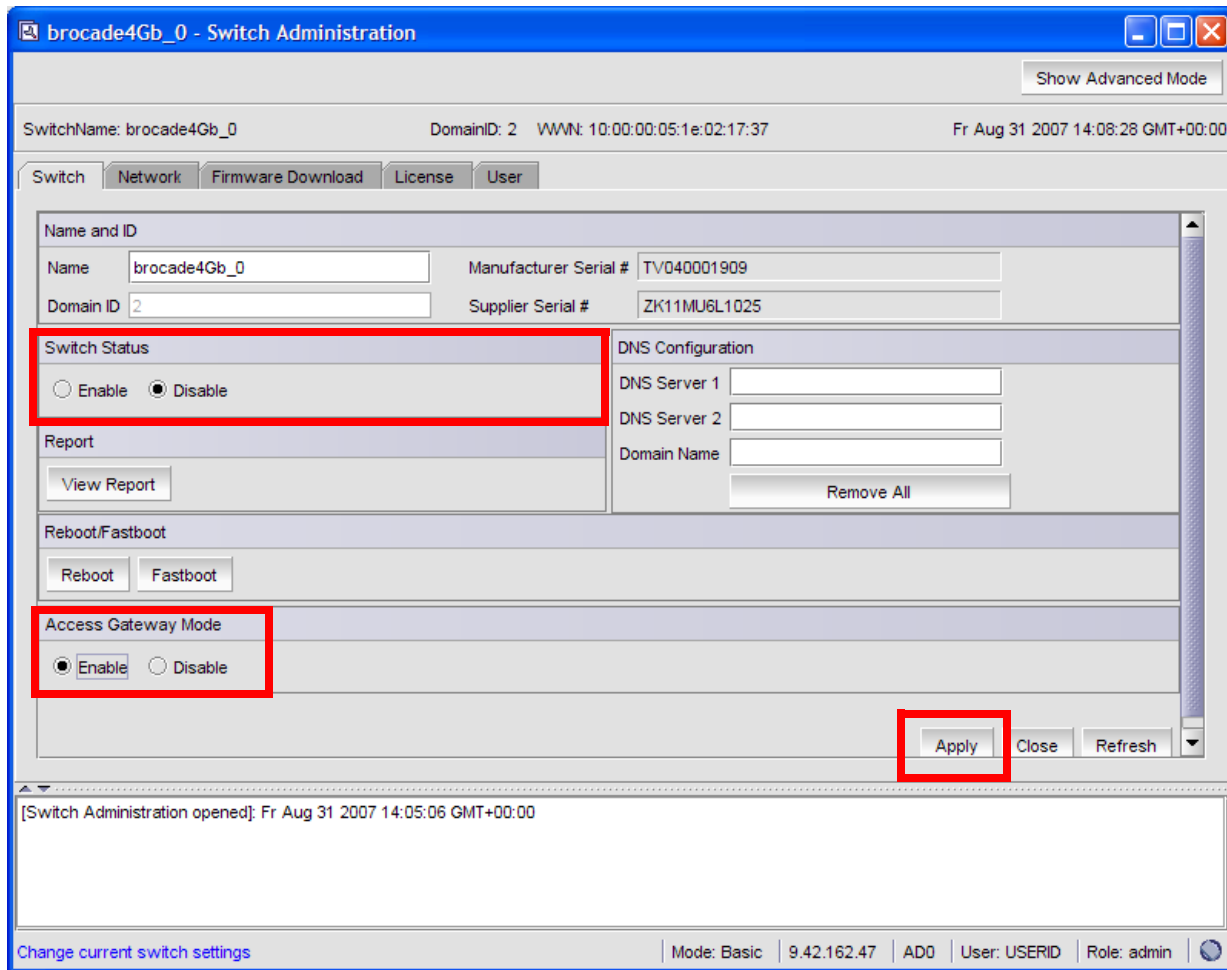

Figure 3-33 Enable Access Gateway mode
4. In the Switch Status portion of Figure 3-33 on page 53, click **Disable** to disable switch mode.